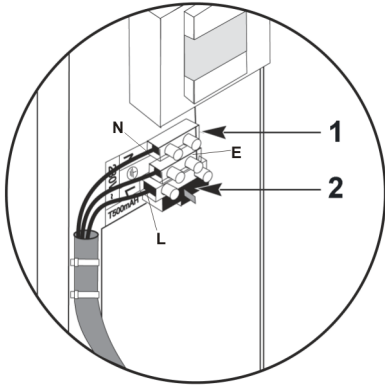

Fig. 5
2. Remove the mains fuse (2) Fig. 5